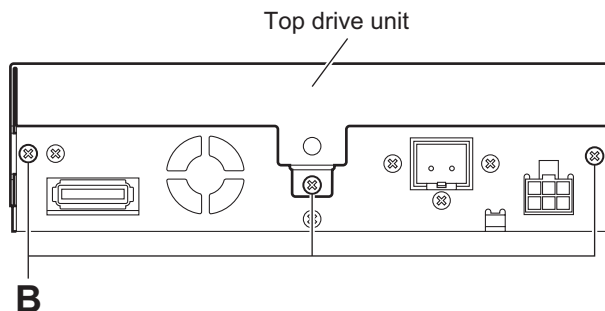

Fig.8
- (2) From the rear side of the main body, remove the three screws **C** attaching the top drive unit. (See Fig.8.)